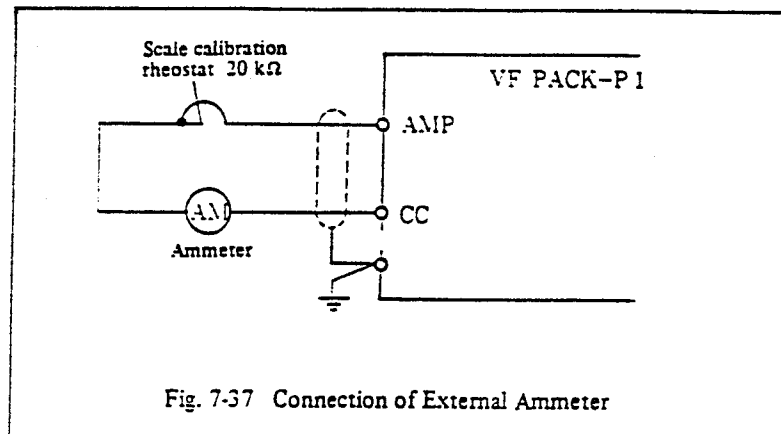

Fig. 7-37 Connection of External Ammeter
2. As shown in Fig. 7-37, connect an ammeter with the variable rheostat for meter calibration in series. They are then connected with terminals AMP-CC.